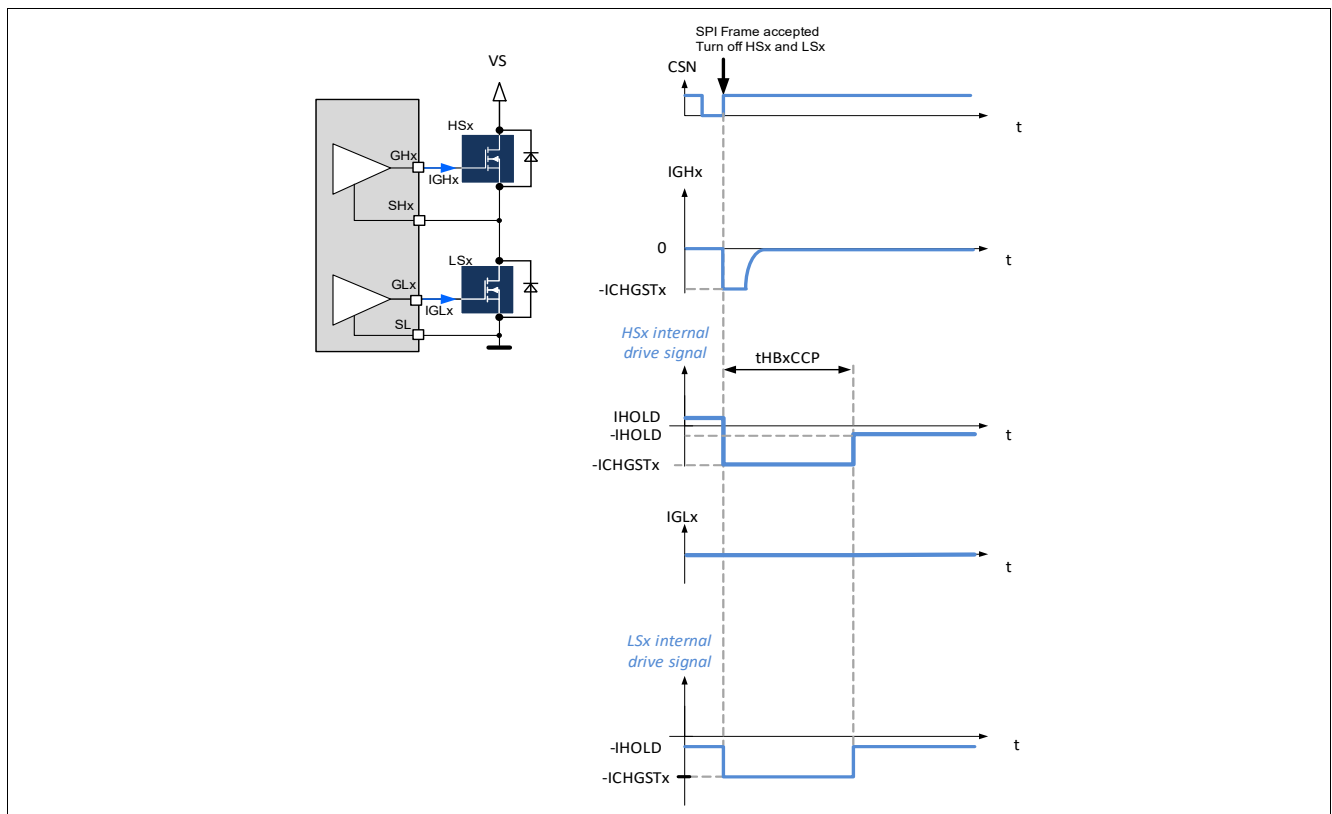

Figure 9 Turn-off of the high-side and low-side MOSFETs of a half-bridge
- the gate of HSx and LSx are discharged with the current -ICHGSTx for the duration $t_{HBxCCP Active}$ (Figure 9)